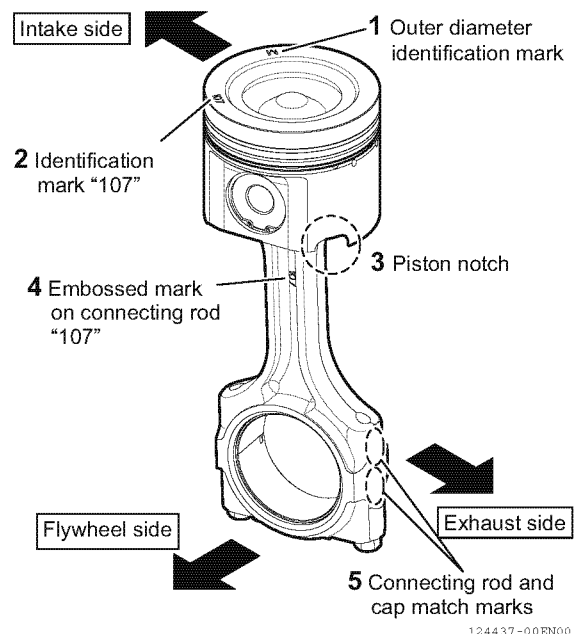

Fig.12-13
3. Be careful not to mistake the direction when assembling the piston and the connecting rod (Fig.12-13).
- Outer diameter identification mark (L, ML, MS, S) (1, Fig.12-13) and "107" identification mark (2, Fig.12-13) of the piston should face the intake side, and the piston notch (3, Fig.12-13) should be on the exhaust side.
- Rod embossed mark (4, Fig.12-13) of the connecting rod should face the flywheel side, and the matching mark of the connecting rod and the cap (5, Fig.12-13) should be on the exhaust side.
- Outer diameter identification mark (1, Fig.12-13) and "107" identification mark (2, Fig.12-13) of the piston should face the intake side, and the piston notch (3, Fig.12-13) should be on the exhaust side.